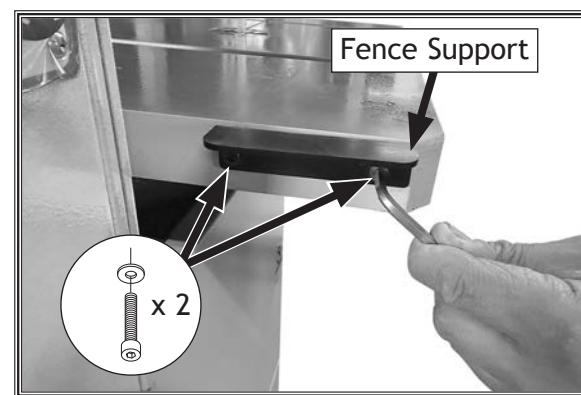

Figure 24. Installing fence support.
8. Install fence support using (2) M6-1 x 12 cap screws and (2) 6mm flat washers (see **Figure 24**).